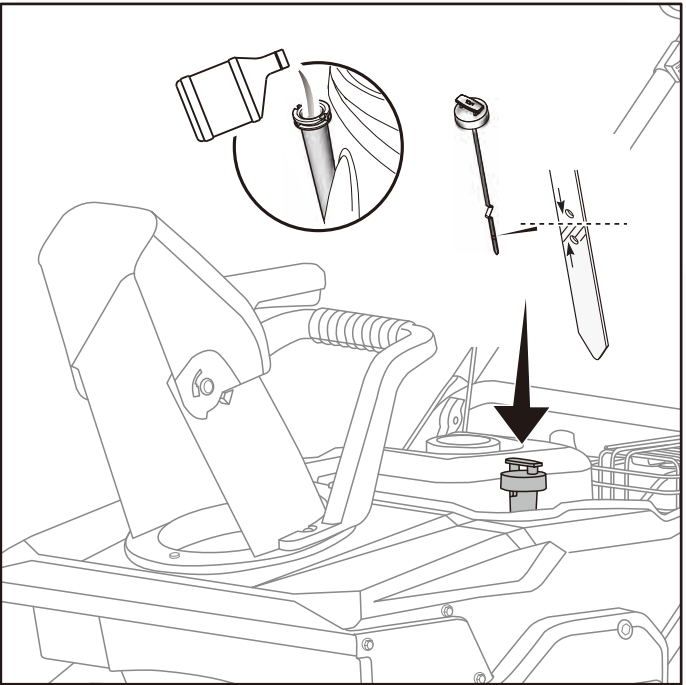

Fig.5
- 2. Remove the engine oil dipstick and clean with a cloth. (Fig.5)